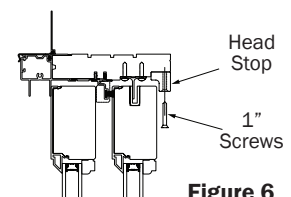

Figure 6
8. With the operable panels in place, reattach the head stop by replacing the 1" Flat Head screws that you removed in step 2 (Figure 6).